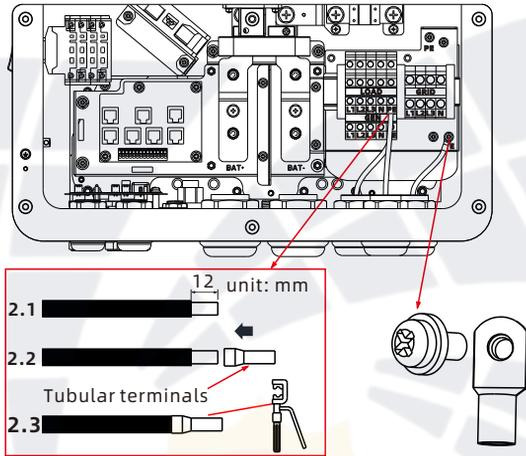

Fig 6.10 Grounding Schematic
2) Connect a ground cable to the copper grounding bar. Fig 6.10 shows the position of the grounding bar ;